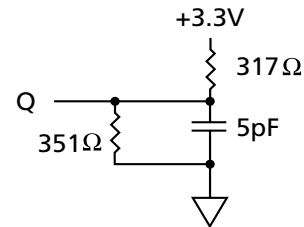

Figure 2
4. The load used for V_{OH}, V_{OL} testing is shown in Figure 2. AC load current is higher than the stated DC values. AC I/O curves are available upon request.
3. This parameter is measured with the output loading shown in Figure 2 unless otherwise noted.